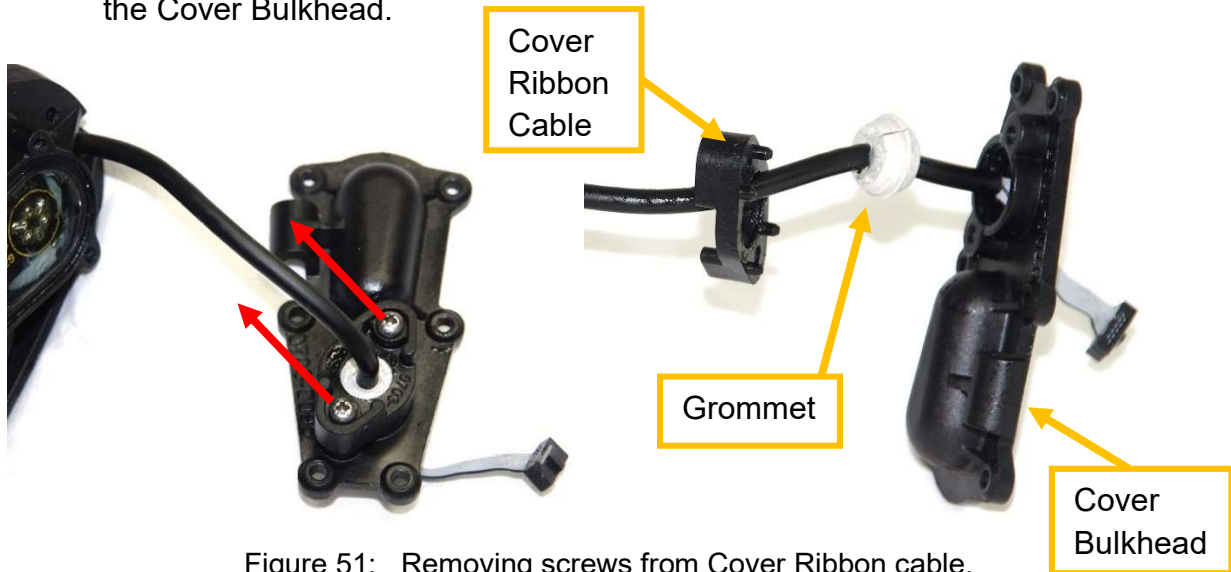

Figure 51: Removing screws from Cover Ribbon cable.
- Remove the two screws holding the cover ribbon cable to the cover bulkhead. Shown in Figure 51.